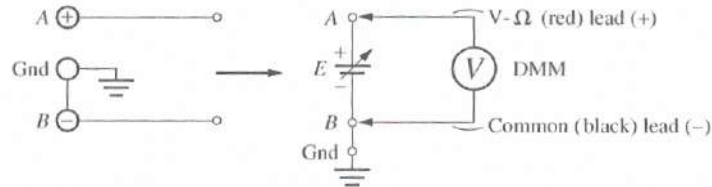

Figure 1.3
- (a). Connect the DMM to the dc power supply as shown in Fig. 1.3